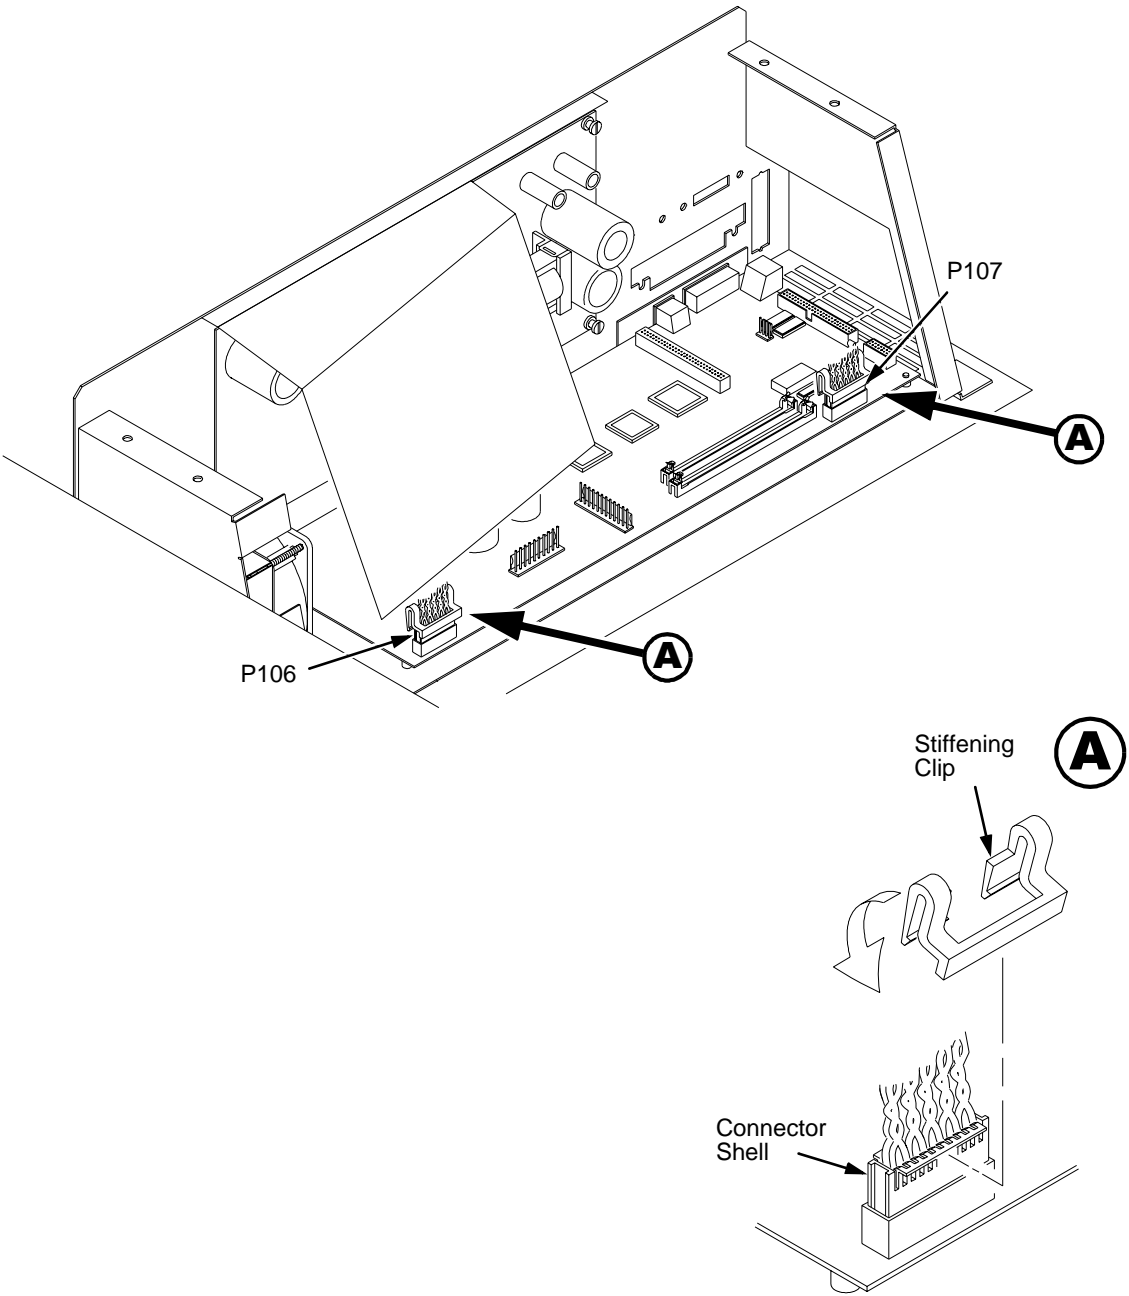

Figure 31. Connector Stiffening Clips
3. Unsnap the front (open side) of the clip from the connector shell, release the back of the clip from the lip of connector shell P107, and work the stiffening clip off the cable bundle. (See Figure 31.)
3. Work the stiffening clip over the cable bundle, engage the back of the clip under the lip of connector shell P107, then snap the front (open side) of the clip down over the connector shell. (See Figure 31.)